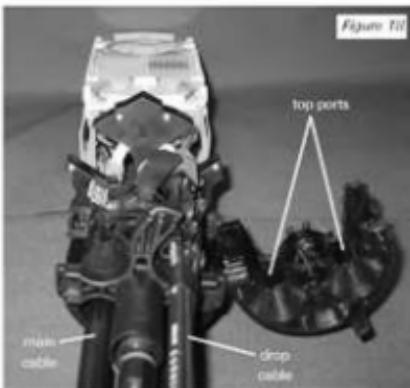

Figure 18
- Hold the gel block with the hinge to the right. Install the gel block with the installed cables as shown. Making sure the small ports are at the bottom of the closure, hinge the top and bottom sections and snap together. (Fig. 18)